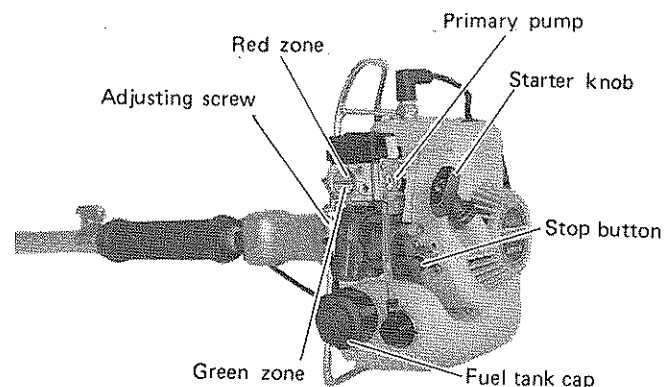

Figure 13
2. Push primer pump until peep window in carburetor becomes green. Figure 13.
- Stop the engine by pushing the stop button. Figure 13.